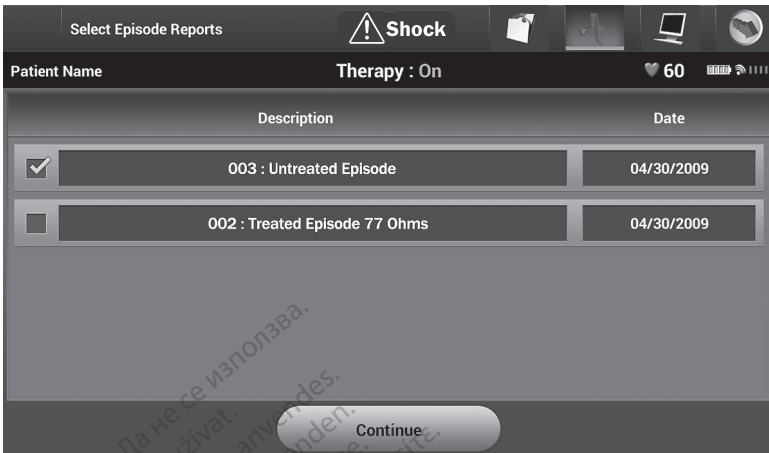

Figure 29. Select Episode Reports screen (scrollable)
2. The Select Episode Reports screen appears showing a list of the stored episodes (Figure 29 Select Episode Reports screen (scrollable) on page 43). Select the episode (s) to be printed. A checkmark appears next to the selected episode(s).